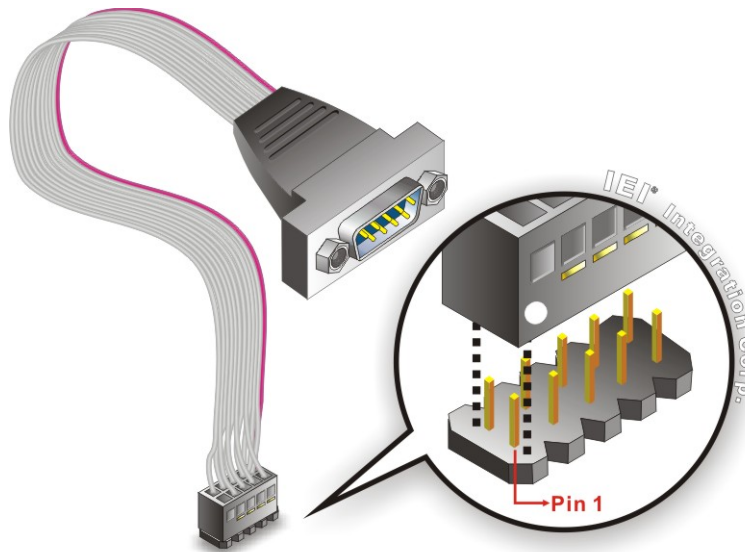

Figure 4-22: Single RS-232 Cable Installation
Step 2: **Insert the cable connector.** Align the cable connector with the onboard connector. Make sure pin 1 on the board and connector line up. Pin 1 on the cable connector is indicated with a white dot. See **Figure 4-22**.